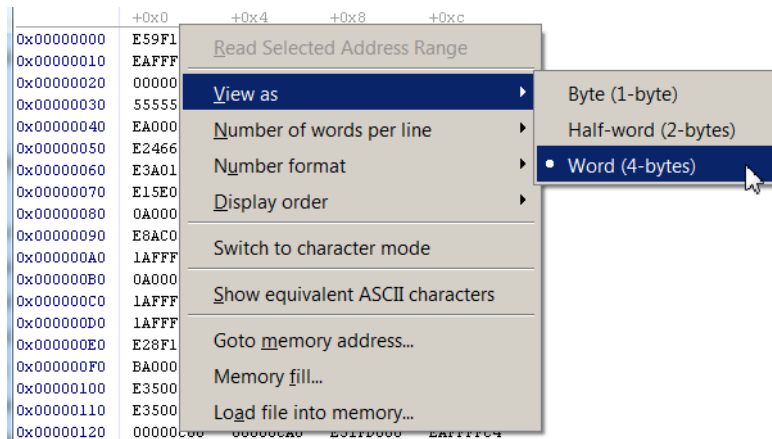

Figure 27. Setting the memory element size.
- Memory element size - the display can format the memory contents as bytes, half-words (2-bytes), or words (4-bytes). This setting can be configured by right-clicking on the Memory window, as illustrated in Figure 27.